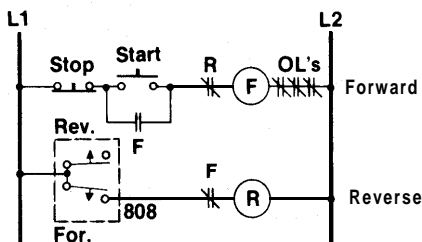

FIGURE 1
**PLUGGING** — When applied in a suitable plugging application such as the circuit shown in Figure 1, the switch with normally open contacts is used. The Bulletin 808 speed switch is designed to automatically interrupt reverse braking power as the motor approaches zero speed. The speed at which the contacts operate can be adjusted so as to avoid coasting or reverse rotation of the motor. The contacts can be wired for plugging in either or both directions.